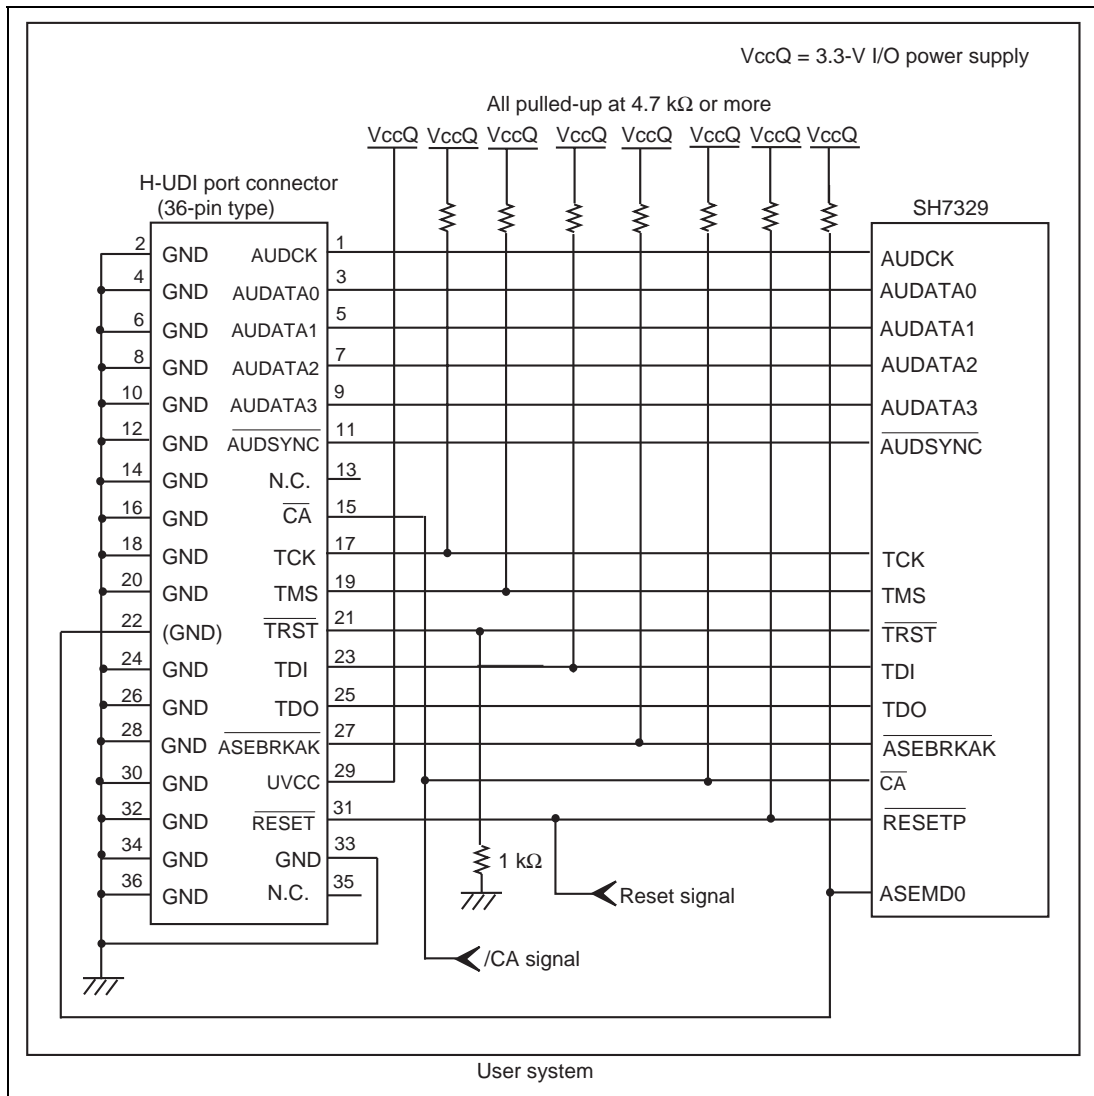

Figure 1.3 Recommended Circuit for Connection between the H-UDI Port Connector and MPU when the Emulator is in Use (36-Pin Type UVCC Connected)
Figure 1.3 shows a recommended circuit for connection between the H-UDI and AUD port connectors (36 pins) and the MPU when the emulator is in use.
- (1) When the emulator is used: /ASEMD0 = 0
- (2) When the emulator is not used: /ASEMD0 = 1Figure 1.3 shows an example of a circuit that allow the /ASEMD0 pin to be GND (0) whenever the emulator is connected by using the user system interface cable. When the /ASEMD0 pin is changed by switches, etc., ground pin 22. Do not connect this pin to the /ASEMD0 pin.
8. Since the H-UDI and the AUD of the MPU operate with the VccQ, supply only the VccQ to the UVCC pin. Make the emulator's switch settings so that the VccQ will be supplied (SW2 = 1 and SW3 = 1) (as shown in figure 1.3).
When the circuit is connected as shown in figure 1.3, the switches of the emulator are set as SW2 = 1 and SW3 = 1. For details, refer to section 3.8, Setting the DIP Switches, in the Debugger Part of the SuperH™ Family E10A-USB Emulator User's Manual.